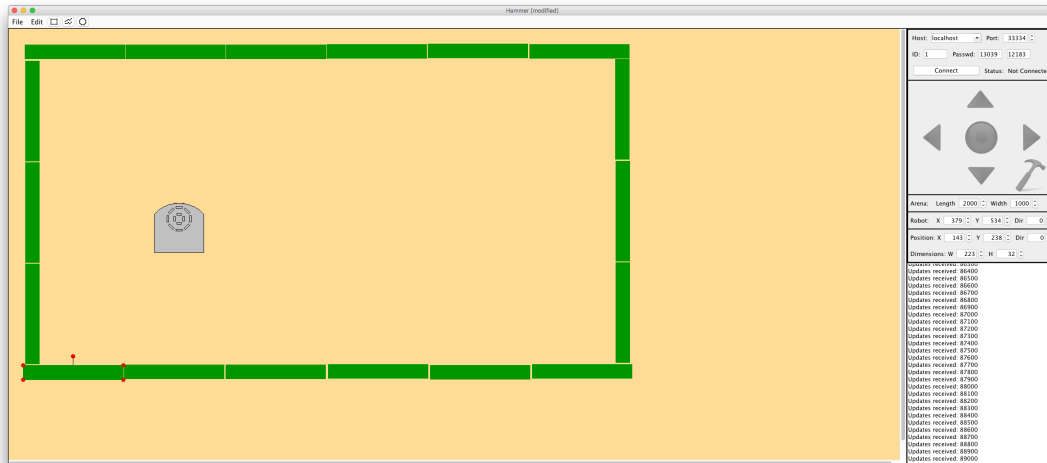

Figure 19: An enclosure of blocks with Thymio in the middle.
2. Create an enclosure of blocks in the arena, similar to the one depicted in Figure 19. To place a block in the arena, click on the button beside the *File* menu that looks like a block. You can then drag it anywhere in the arena and drop it by clicking. When selected, you can drag the